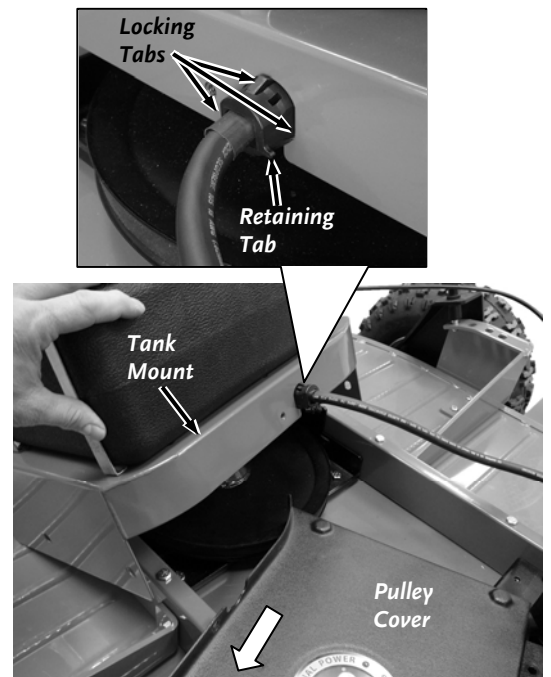

Figure 27
4. Lift up the front of the Fuel tank Mount so you can remove the Pulley Cover (**Figure 27**).